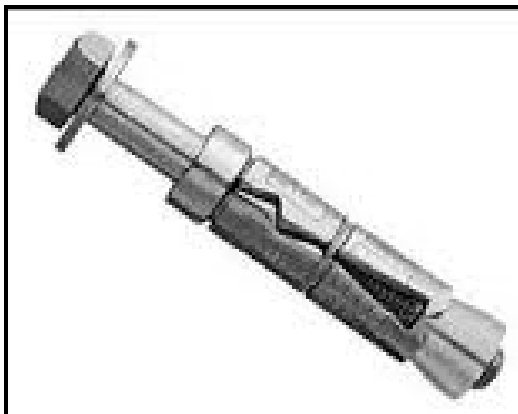

FIGURE 4.2
- 4.2 FIGURE 4.2 below shows a fastener. Write down the correct name and ONE use of the fastener.